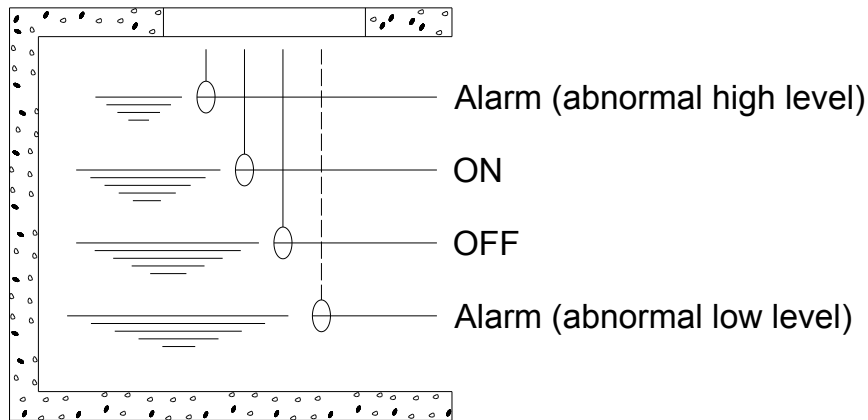

Fig. 16 Single Unit Operation
4.4 Water Level Switch Cable Connection (Fig. 16 and 17)
Figs. 16 and 17 illustrate typical float switch applications for water level control. Three (or four) float switches are required for single unit operation, whereas four (or five) are necessary for two-unit alternating operation. If you desire our Ebara Water Level Control Float Switch, ask us for a catalog.